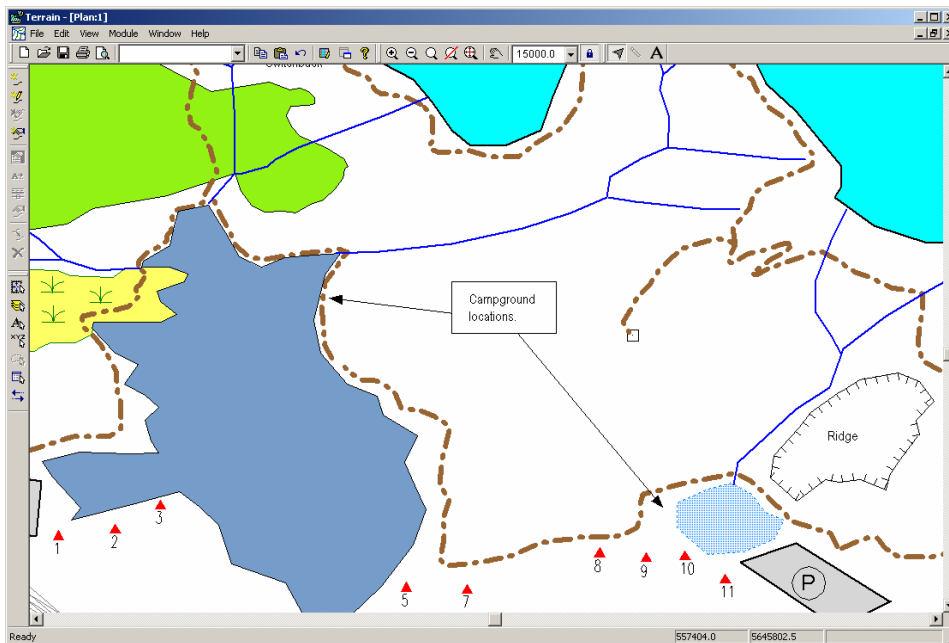

Figure 3.18: Campground Locations
3. Move the  cursor to one of the campground locations as indicated by the 2 arrowheads in Figure 3.18 and press the left mouse once to create (and capture) a new point. Left click again to anchor the new point.